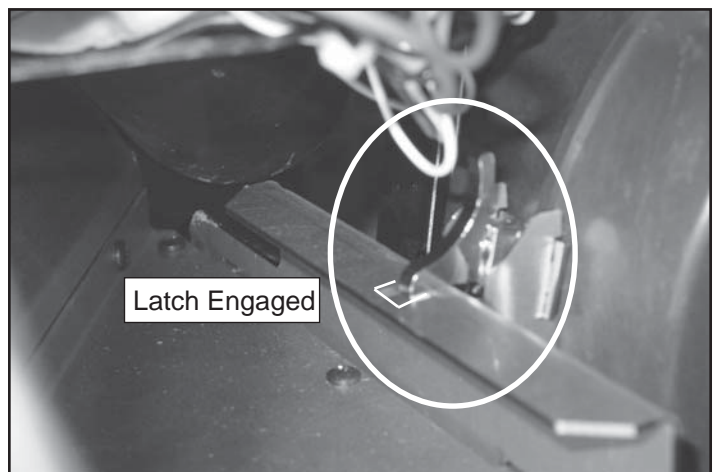

Figure 30.4
5. When the blower is properly positioned the latch will engage the notch to hold the blower in place. **Figure 30.4**.